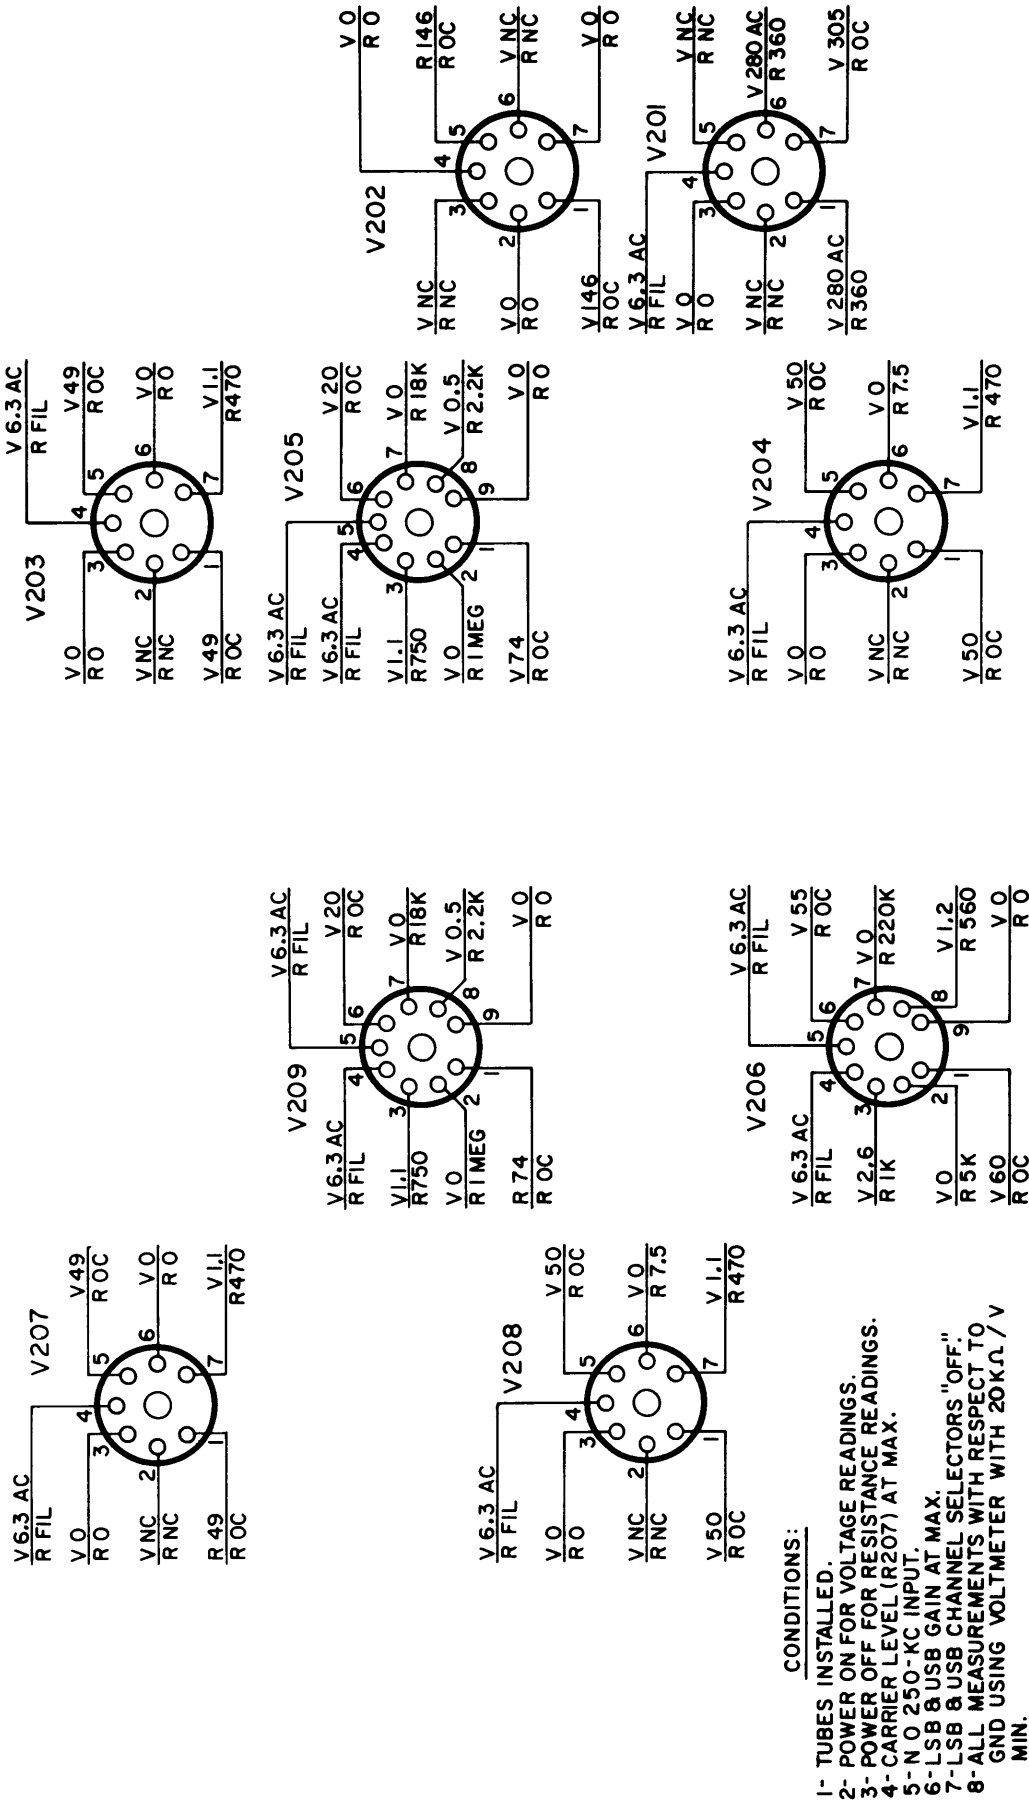

Figure 5-1. Voltage and Resistance Diagram
The operator should note general condition of panel switches, observe whether the panel indicator lamp lights, and check the condition of the fuse as well as that of all the tubes. The fuse and a power indicator lamp are located on the front panel of the CBE. The locations of all tubes in the CBE are indicated by the tube location diagram of figure 5-1.
a. VOLTAGE AND RESISTANCE DIAGRAM. Figure 5-1 shows voltage-and resistance-to-chassis measurements at tube pins in the CBE.
(1) POWER SUPPLY SECTION. The CBE has fuse protection for the primary winding of its power transformer. If the fuse holder lamp goes on or the POWER lamp fails to go on when the power switch is ON position, check fuse. See figure 5-1 and check the voltages at tube pins with a reliable 20,000 ohms-per volt meter.
(2) AUDIO INPUT SECTION. With power switch ON, USB (OFF CH1 CH2) switch at CH1, LSB (OFF CH1 CH2) switch at OFF, USB (GAIN) at minimum
(fully counterclockwise), no 250-kc input, and audio signal across terminals 2 and 4 of E201 of 1-kc at .015-volt, attach VTVM across terminals 1 and 3 of T202. A nominal reading of .07-volt should be obtained. Turn USB (GAIN) control to maximum (fully clockwise); a nominal reading of 0.56-volt should be obtained. If readings appear abnormal, refer to figure 5-1 and check voltages and resistances at pins of V203 with a 20,000 ohms-per-volt meter. Repeat similar process for CH2 on LSB.
250-3500 for the CBE-2 to obtain peak readings on the VTVM. Adjust the meter to any convenient reference point. This will appear at approximately 2000-cycles for both units, CBE-1 and CBE-2. Vary the frequency of the audio signal generator towards the lower frequency side, 350-cycles for the CBE-1 or 250-cycles for the CBE-2. Note and record the frequency when the meter indicates a reduction of 1-db, 2-db, and 3-db. Adjust the frequency of the audio signal generator towards 7500-cps. Note and record the second frequency at the 1-db, 2-db, and 3-db points. While adjusting the signal generator to 7500-cycles from 350-cycles (CBE-1), 3500-cycles from 250-cycles (CBE-2), watch the meter for any variation greater than 3-db below the point which has been set as a reference point. Subtract the two frequencies at the 3-db points. This should be more than 7150-cycles (CBE-1) or 3250-cycles (CBE-2). If bandwidth is abnormal, refer to figure 5-1 and check voltages at tube pins and resistances with a reliable 20,000 ohms-per-volt meter. Check Z201 filter. Repeat for LSB.
(4) METER SECTION. With power switch ON, apply 250-kc source at 5.6-millivolts to pin 7 of V205 USB meter amplifier. USB meter should indicate approximately 100%. If indication is abnormal, refer to figure 5-1 and check tube pin voltages and resistances at tube pins with a 20,000 ohms-per-volt meter. Check for maladjustment of R216 (see section 6). Repeat for LSB.